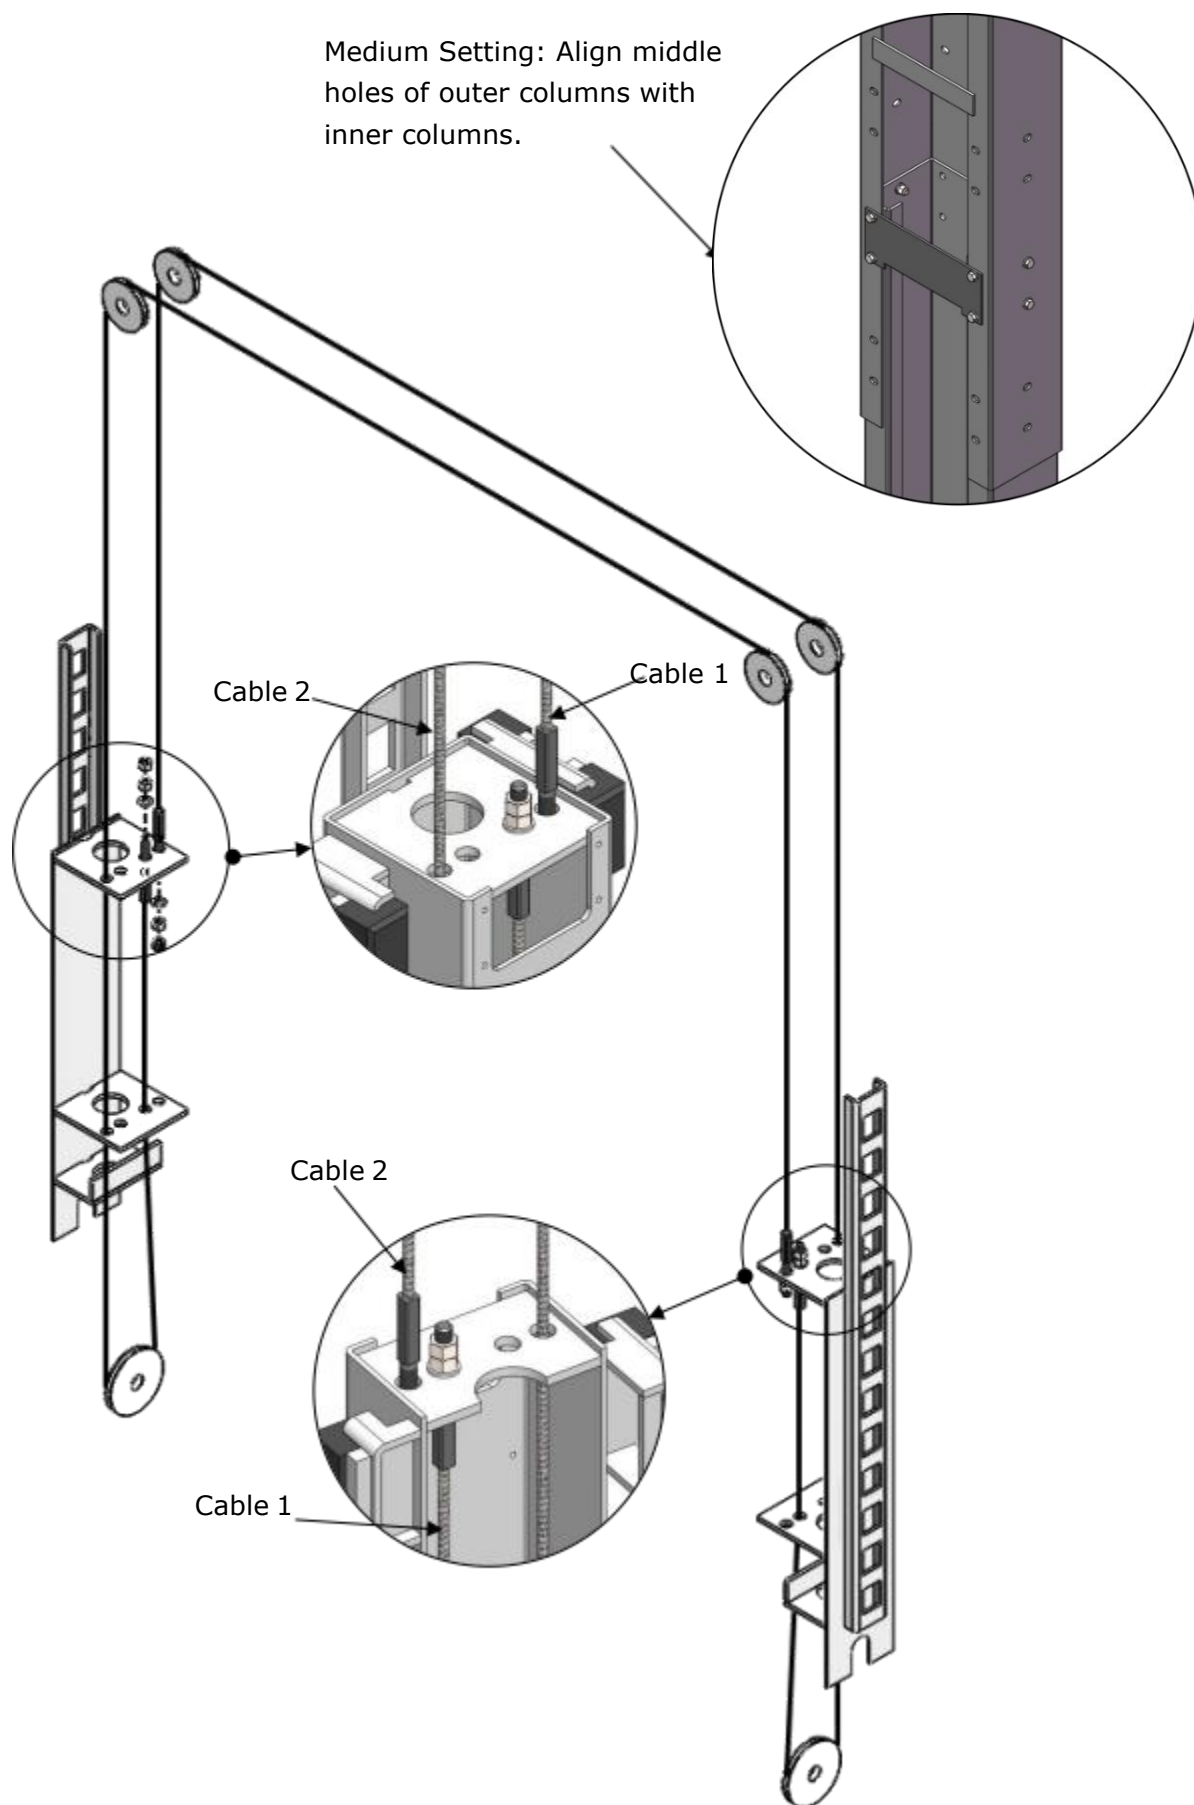

Fig. 30
2. Sync cable connection of medium setting installation. **(See Fig. 30)**